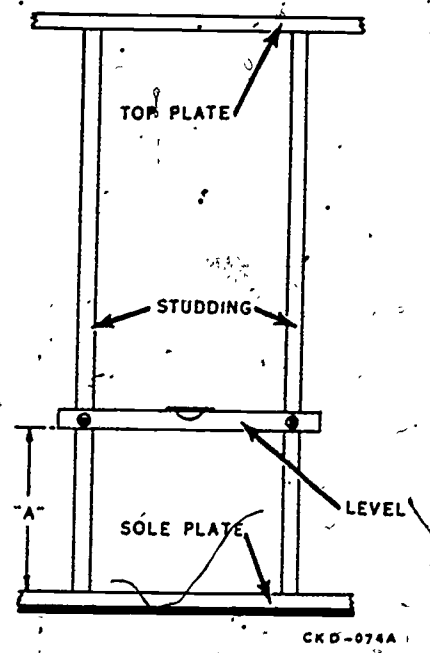

Figure 12. Measuring and Marking Rough-in Urinal Waste Outlet
3. Obtain the floor height of the waste system outlet ("A" in figure 12) from the manufacturer's rough-in specifications or your instructor. Mark the studding as shown in figure 12.